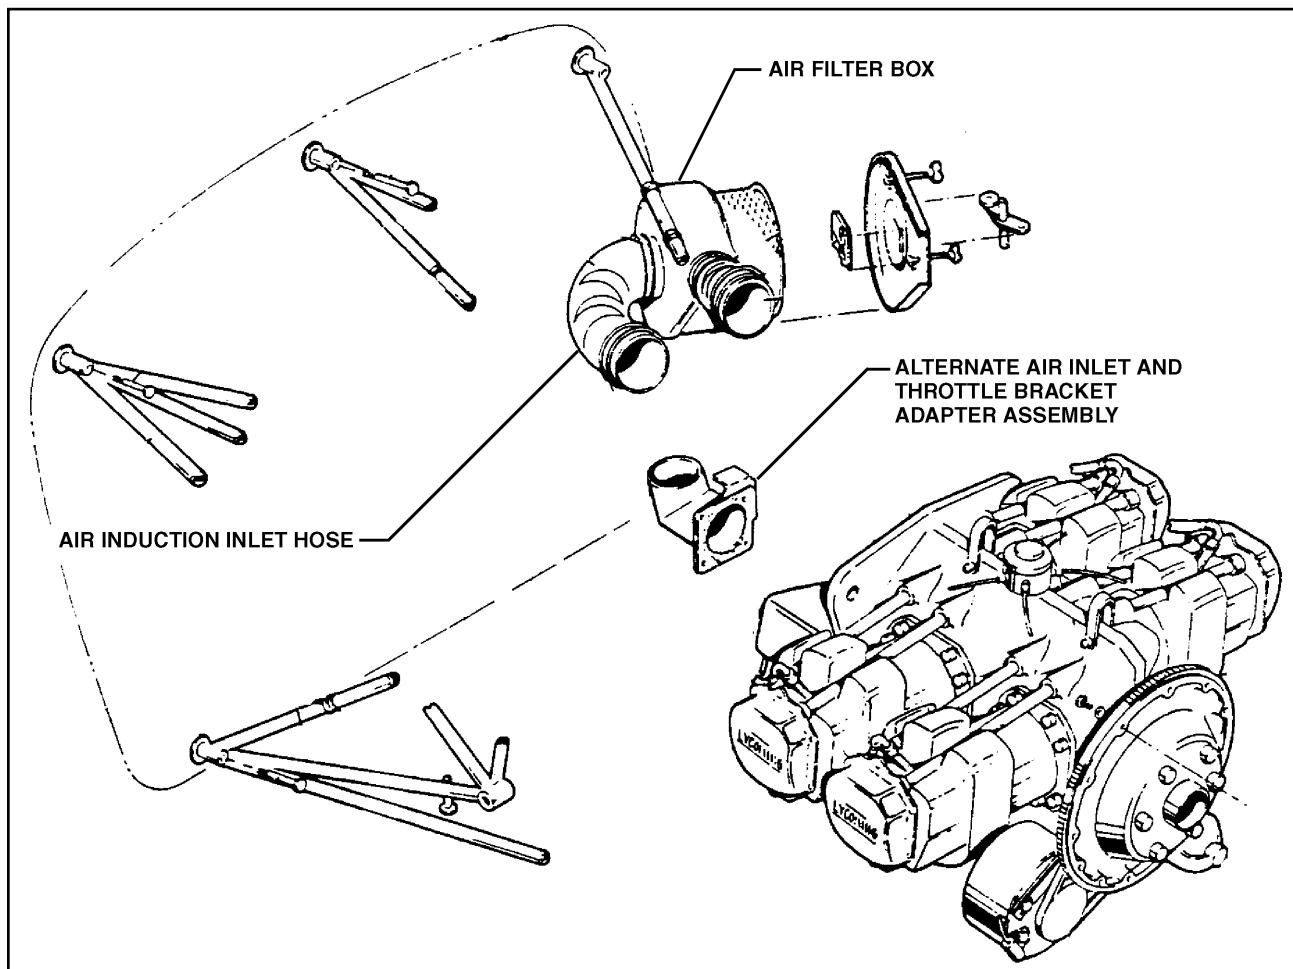

Figure 3-2. Air Induction Inlet Hose Inspection
- (a) In PA-28R-180s S/N's 28R-30004 thru 28R-30478, for airplanes which have not installed Piper Kit No. 760-328V per Piper Service Bulletin No. 297, each 10 hours time-in-service visually inspect the air induction inlet hose, P/N 63633-43 (Figure 3-2), for deterioration, broken or frayed cord wrapping, evidence of hose partially collapsed, indication of reinforcement wire slippage, or evidence of the wire not being bonded properly to the hose interior wall, especially in the vicinity of Koroseal ties or clamps.
- (b) In PA-28R-180s S/N's 28R-30479 thru 28R-31092 and PA-28R-200s S/N's 28R-35000 thru 35256, less 28R-35238 and 28R-35252; for airplanes which have not installed Piper Kit No. 760-334V per Piper Service Bulletin No. 297, each 10 hours time-in-service visually inspect the air induction inlet hose, P/N 63633-43 (Figure 3-2), for deterioration, broken or frayed cord wrapping, evidence of hose partially collapsed, indication of reinforcement wire slippage, or evidence of the wire not being bonded properly to the hose interior wall, especially in the vicinity of Koroseal ties or clamps.